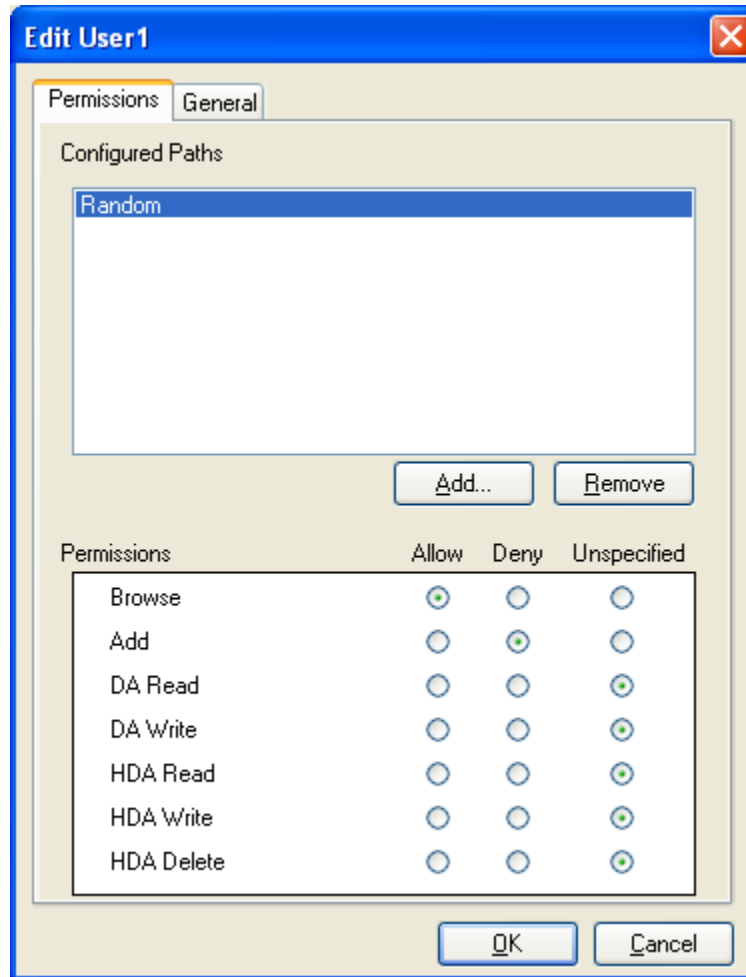

Figure 80 - Edit <Username>: Example
5. The selected path or item will be listed in the **Configured Paths** screen section of the **Edit User** window. Permissions can now be assigned, as in the example depicted in Figure 80.
- a. Check whether the permission type (**browse**, **add**, **read**, **write**, or **delete**) is specified (Figure 80). If the permission type is specified for the action being performed, a match is found and the permission (either allow or deny) is used.